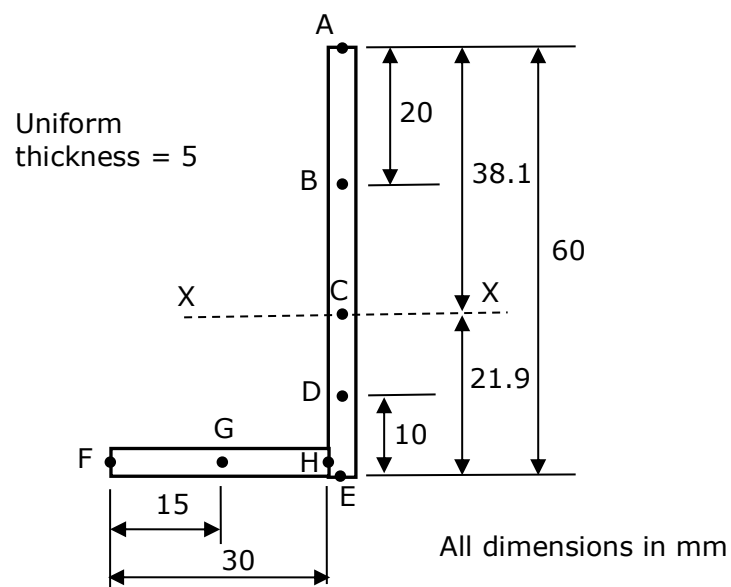

Fig. Q1
1. The angle section shown in Fig. Q1 carries a vertical shear force of 1000N. The 2nd moment of area of the section about the neutral axis XX through the centroid, C, of the section is $I = 156,940 \text{ mm}^4$. Determine: